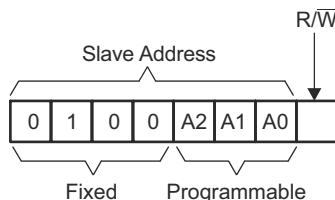
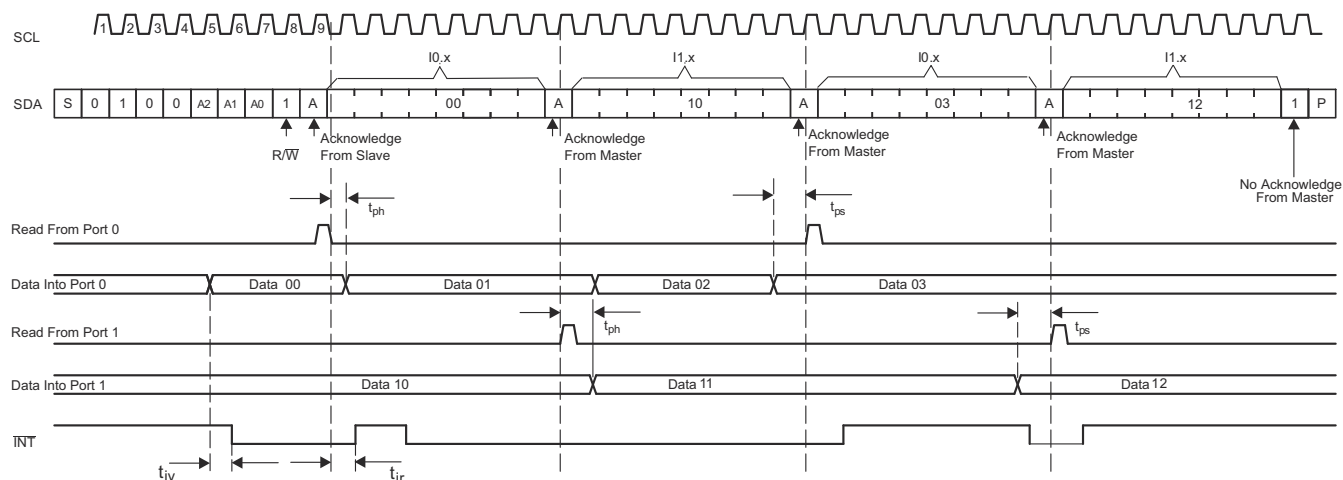

Figure 8-6. PCA9555 Address
**Figure 8-10. Read From Register**
Figure 8-6 shows the address byte of the PCA9555.
Data is transmitted to the PCA9555 by sending the device address and setting the least-significant bit to a logic 0 (see Figure 8-6 for device address). The command byte is sent after the address and determines which register receives the data that follows the command byte.
The bus master first must send the PCA9555 address with the least-significant bit set to a logic 0 (see Figure 8-6 for device address). The command byte is sent after the address and determines which register is accessed. After a restart, the device address is sent again, but this time, the least-significant bit is set to a logic 1. Data from the register defined by the command byte then is sent by the PCA9555 (see Figure 8-10 through Figure 8-12).
- This figure eliminates the command byte transfer, a restart, and slave address call between the initial slave address call and actual data transfer from the P port (see Figure 8-10 for these details).
- B. This figure eliminates the command byte transfer, a restart, and slave address call between the initial slave address call and actual data transfer from the P port (see Figure 8-10 for these details).